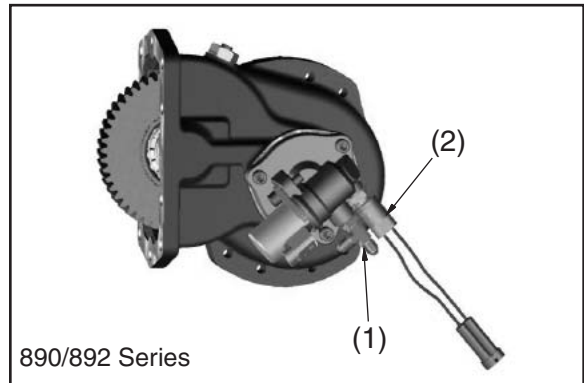

Fig. 3
3. Install the fitting (1) into the pressure port on the valve cap as shown **Fig. 3**. Torque to 156-180 lbs-in [18-20 Nm]. Next install the pressure switch (890 Series Only) (2) into the port in the valve cap as shown and torque to 120-140 lbs-in [14-16 Nm] (**Fig. 3, 3a, & 3b**).